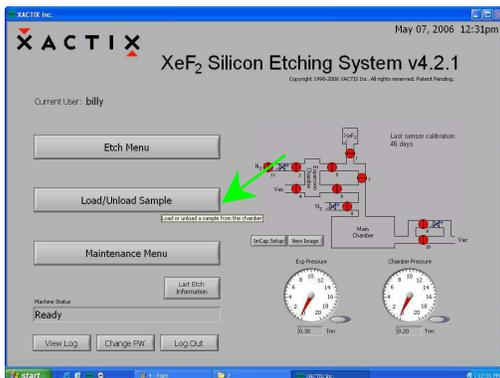
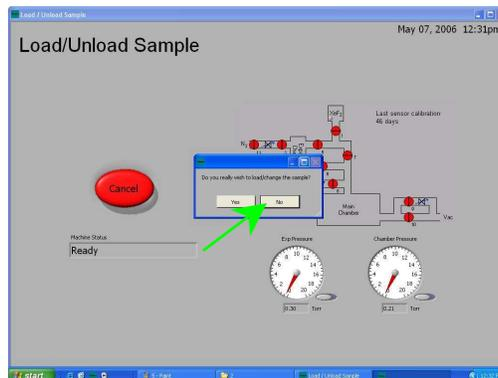

Figure 2.25
Figure 2.26
19. Click “Load/ Unload Sample” (Figure 2.25) with dialog box “Do you wish to load/change the sample” popped up. Click “Yes” to confirm. (Figure 2.26)